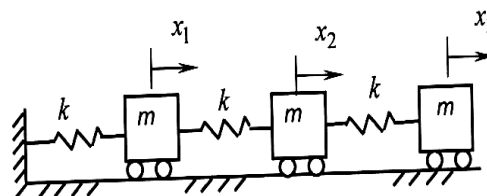

Fig. Q9
- 9. Obtain the fundamental natural frequency and mode of vibration for the system shown in Fig. Q9 using Stodola method and compare that frequency by Dunkerley's method. 20